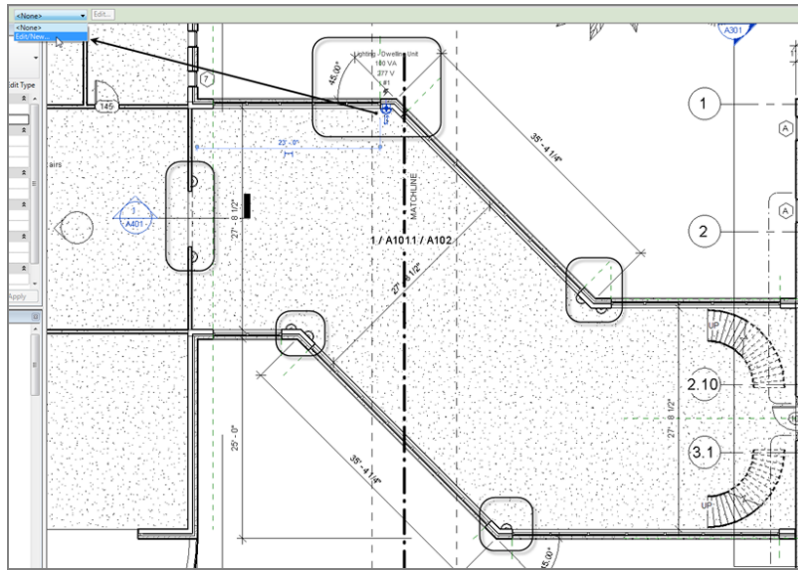

FIGURE 19.12 : Adding the interior lighting to the link
11. Place some lights in the link, as shown in Figure 19.12.